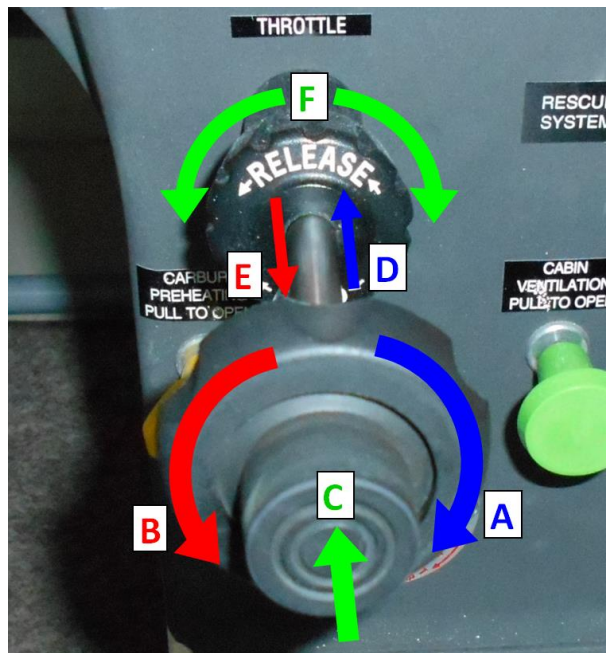

Fig. 7-15 Throttle controller
The throttle control labelled **THROTTLE** is a black knob installed in the center console (Fig. 7-15). It is configured so that the throttle is opened in the forward position and closed in the full aft position. Throttle control is operated by rotating the knob in clockwise direction for increase (A) or counter clockwise for decrease (B) of engine speed. For rapid or large adjustments, the knob may be moved forward for increase (D) or backward for decrease (E) of engine speed by depressing the lock button (C) at the end of throttle control and then re-positioning the throttle control as desired.